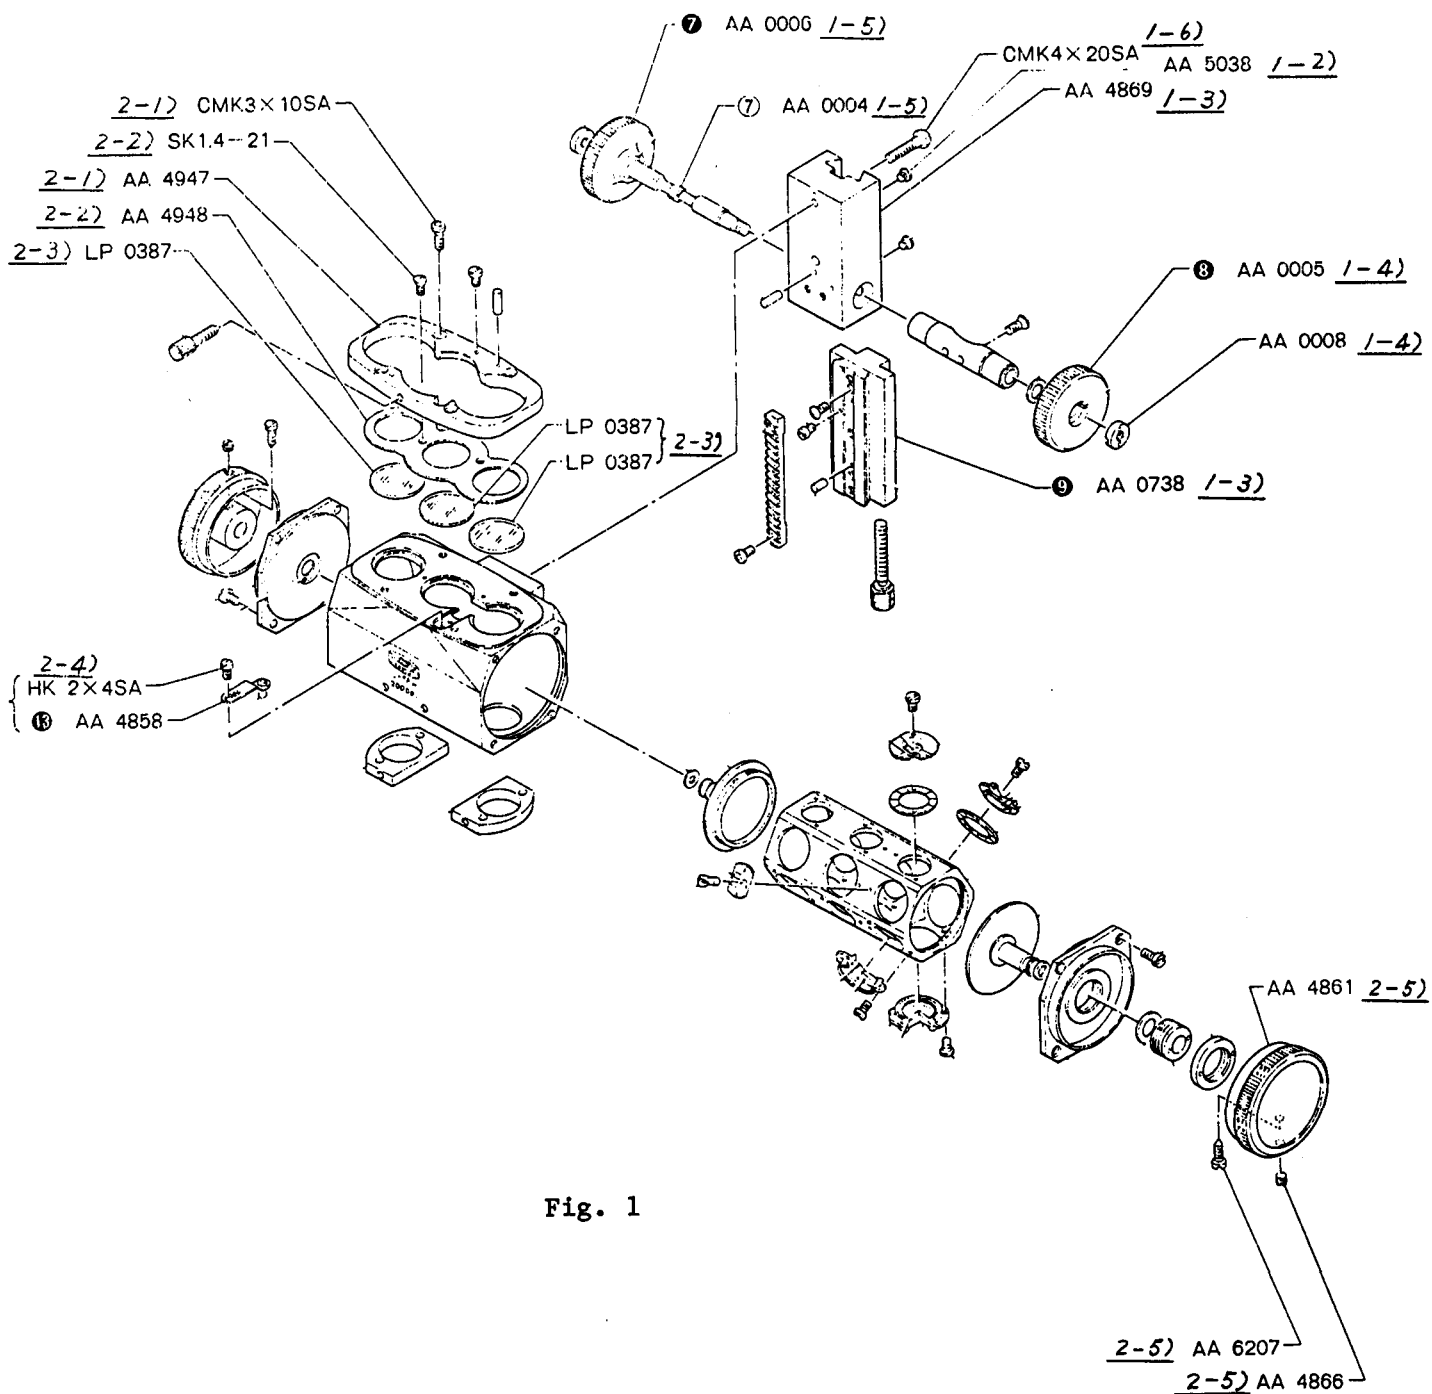

Fig. 1
A. SEQUENTIAL PROCEDURE OF DISASSEMBLY (See Fig. 1)